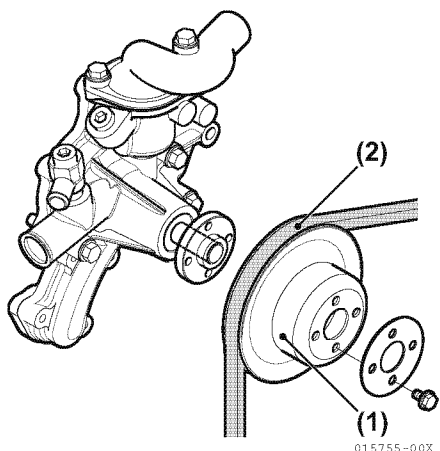

Figure 6-27
2. Remove the spacer, V-pulley (**Figure 6-27, (1)**) and cooling fan V-belt (**Figure 6-27, (2)**).